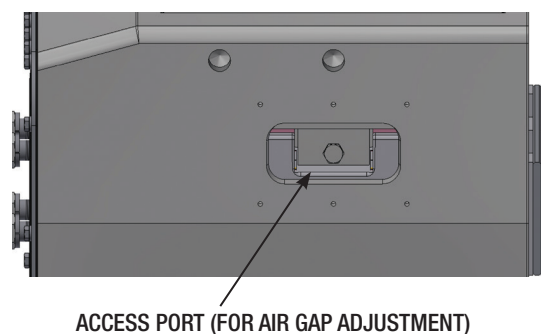
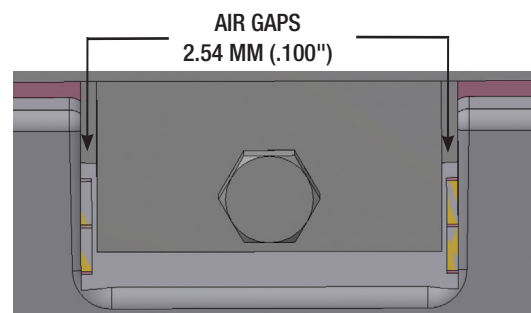

Figure 10 - Access Port
Figure 11 - Motor Gap
8. Remove the nameplate from the side of the body casing to gain access to air gap (**See Figure 10**).
9. Working through the opening in the side of the body casing (**Figure 10**) and using a non-magnetic feeler gauge furnished with each unit (**Part 53**), approximately 2.54 mm (0.100") thick, check the air gaps between the e-Frame legs and the armature pole pieces (**See Figure 11**). These gaps should be uniform in width and parallel and as nearly alike as possible. If they are not, they should be adjusted by shifting the electrical assembly plate with the front or rear adjustment screws. In checking the gaps, the internal parts will be easier to see if the rear cover is removed.